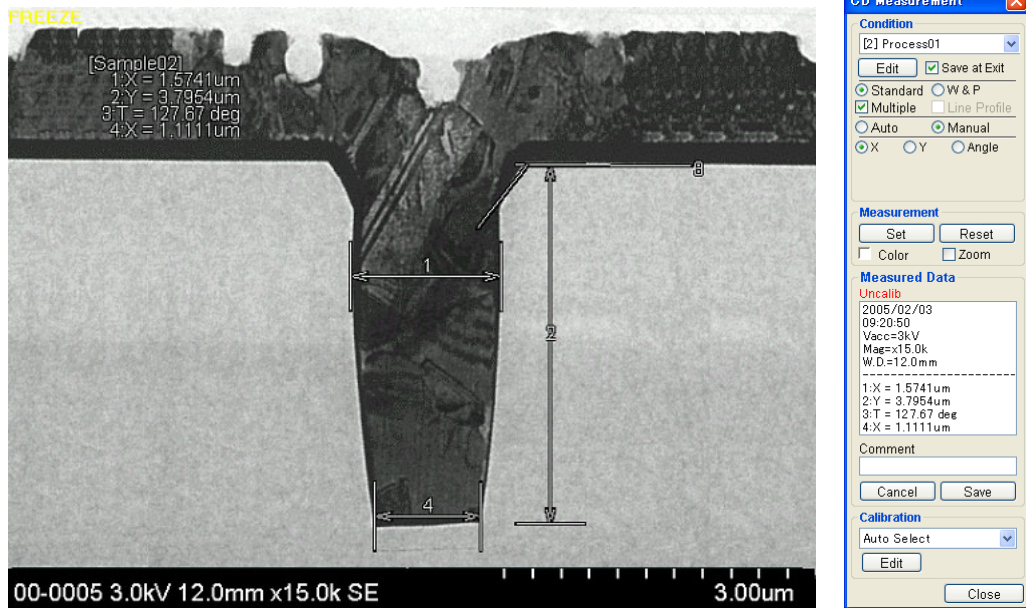

Fig. 6.4-23 Successive Manual Measurement Results
(2) Successive Manual Measurement
- (e) Successive measurement is also possible in the angle measurement mode. Successive measurement by changing **X**, **Y** or **Angle** midway as in Fig. 6.4-23 is also feasible. In the case of **Angle**, numerics will be displayed in the part where the circular cursor appears.